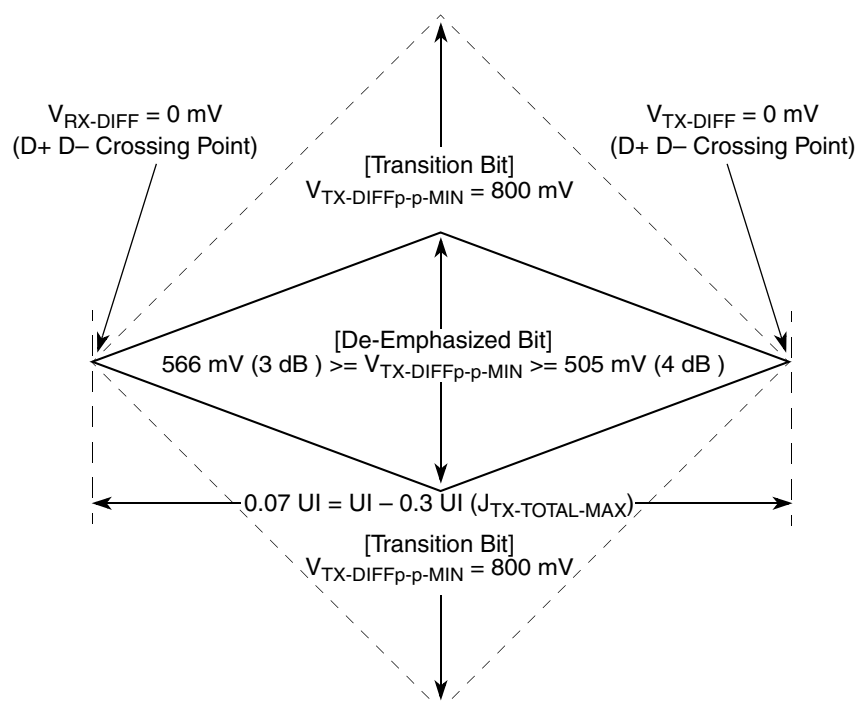
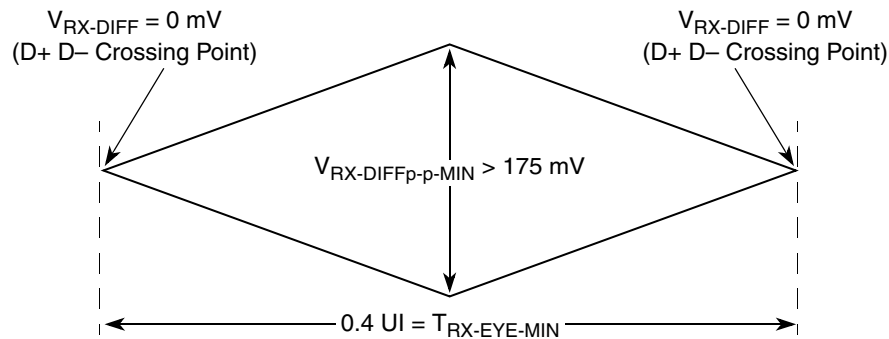
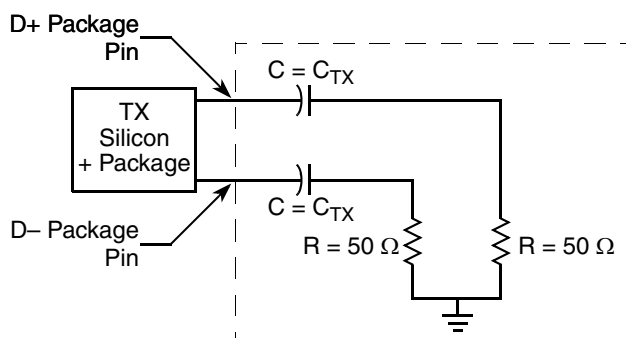

Figure 50. Minimum Transmitter Timing and Voltage Output Compliance Specifications
Figure 51. Minimum Receiver Eye Timing and Voltage Compliance Specification
Figure 52. Compliance Test/Measurement Load
2. Specified at the measurement point into a timing and voltage compliance test load as shown in Figure 52 and measured over any 250 consecutive TX UIs. (Also refer to the transmitter compliance eye diagram shown in Figure 50)
4. The Transmitter input impedance shall result in a differential return loss greater than or equal to 12 dB and a common mode return loss greater than or equal to 6 dB over a frequency range of 50 MHz to 1.25 GHz. This input impedance requirement applies to all valid input levels. The reference impedance for return loss measurements is 50  $\Omega$  to ground for both the D+ and D- line (that is, as measured by a Vector Network Analyzer with 50 ohm probes—see Figure 52). Note that the series capacitors  $C_{TX}$  is optional for the return loss measurement.
5. Measured between 20-80% at transmitter package pins into a test load as shown in Figure 52 for both  $V_{TX-D+}$  and  $V_{TX-D-}$ .
The TX eye diagram in Figure 50 is specified using the passive compliance/test measurement load (see Figure 52) in place of any real PCI Express interconnect + RX component.
2. Specified at the measurement point and measured over any 250 consecutive UIs. The test load in Figure 52 should be used as the RX device when taking measurements (also refer to the Receiver compliance eye diagram shown in Figure 51). If the clocks to the RX and TX are not derived from the same reference clock, the TX UI recovered from 3500 consecutive UI must be used as a reference for the eye diagram.
4. The Receiver input impedance shall result in a differential return loss greater than or equal to 15 dB with the D+ line biased to 300 mV and the D- line biased to -300 mV and a common mode return loss greater than or equal to 6 dB (no bias required) over a frequency range of 50 MHz to 1.25 GHz. This input impedance requirement applies to all valid input levels. The reference impedance for return loss measurements for is 50  $\Omega$  to ground for both the D+ and D- line (that is, as measured by a Vector Network Analyzer with 50 ohm probes - see Figure 52). Note: that the series capacitors  $C_{TX}$  is optional for the return loss measurement.
The RX eye diagram in Figure 51 is specified using the passive compliance/test measurement load (see Figure 52) in place of any real PCI Express RX component.
Note: In general, the minimum Receiver eye diagram measured with the compliance/test measurement load (see Figure 52) will be larger than the minimum Receiver eye diagram measured over a range of systems at the input Receiver of any real PCI Express component. The degraded eye diagram at the input Receiver is due to traces internal to the package as well as silicon parasitic characteristics which cause the real PCI Express component to vary in impedance from the compliance/test measurement load. The input Receiver eye diagram is implementation specific and is not specified. RX component designer should
provide additional margin to adequately compensate for the degraded minimum Receiver eye diagram (shown in Figure 51) expected at the input Receiver based on some adequate combination of system simulations and the Return Loss measured looking into the RX package and silicon. The RX eye diagram must be aligned in time using the jitter median to locate the center of the eye diagram.
The reference impedance for return loss measurements is  $50\Omega$  to ground for both the D+ and D- line (that is, as measured by a Vector Network Analyzer with  $50\Omega$  probes—see Figure 52). Note that the series capacitors,  $C_{TX}$ , are optional for the return loss measurement.
The AC timing and voltage parameters must be verified at the measurement point, as specified within 0.2 inches of the package pins, into a test/measurement load shown in Figure 52.